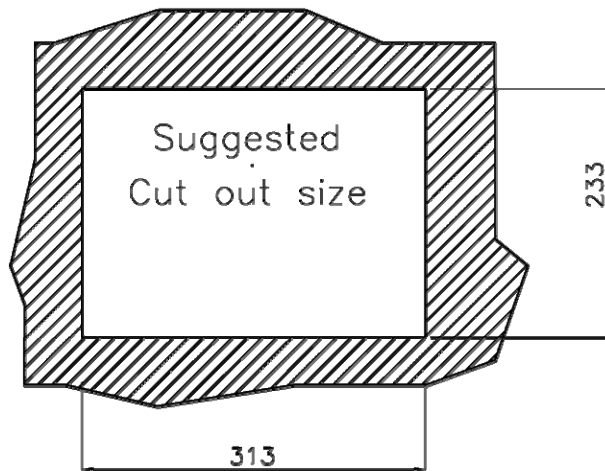

Figure 3-30: PPC-3712A-N26 Panel Cutout Dimensions
Step 3: Cut out a section from the panel that corresponds to the dimensions of the flat panel PC chassis. The panel section that is cut out must be smaller than the size of the aluminum frame that surrounds the 12.1" TFT LCD panel but just large enough for the chassis to fit through (**Figure 3-30**).